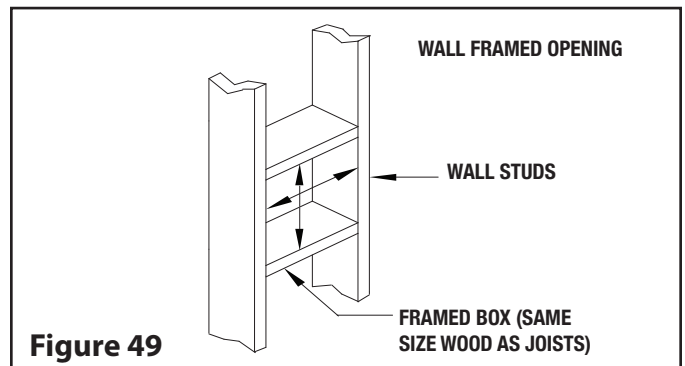

Figure 49
Step 2: Normally wall studs are placed at 16" centers. With the hole midway between them, the support will fasten to these studs and thus ensure a strong attachment to the wall. (see Figure 49).
Step 3: Wood walls: Place the exterior half of the Insulated Wall Thimble (RSM) in the opening from the outside. Nail in place using (4) 2" nails or 1" screws. Make sure the insulation pad is cut to the desired length according to the wall thickness. Wrap the insulation pad around the tube of the interior half of the Insulated Wall Thimble. Place the metal sheet around the insulation pad and join the locking tabs together. Place the interior half of the Insulated Wall Thimble inside the exterior half of the Insulated Wall Thimble.